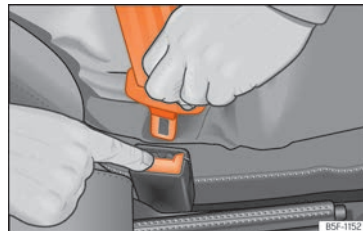

**Fig. 11** Release the seat belt's buckle.
- Press the red button on the buckle » » » **Fig. 11**. The latch plate is released from the buckle.